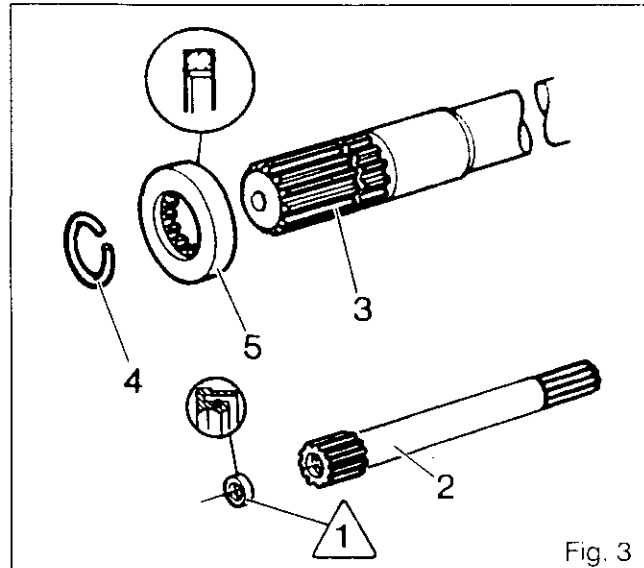

Fig. 3
14. Replace the seal /1\ on the input shaft (2) (Fig.3).
- a) withdraw the PTO shaft (3).
- d) remove the circlip (4) and the washer (5).
- e) protect the splined end of the shaft (3).
- h) refit the washer (5) and the circlip (4).
15. Assemble the carrier (3) on the clutch slave cylinder (2) with the pin /1\ (Fig.3).
16. **Position service tool 3376802 M1 (36 mm shim) between the end of the guide-pin (4) and the face of the control cylinder (2) (Fig.3).**
- c) replace the PTO shaft (3).
**Note : During assembly, the release bearing must be heard to engage in the clutch cover plate. Remove the service tool through the inspection hole (Fig.3).**